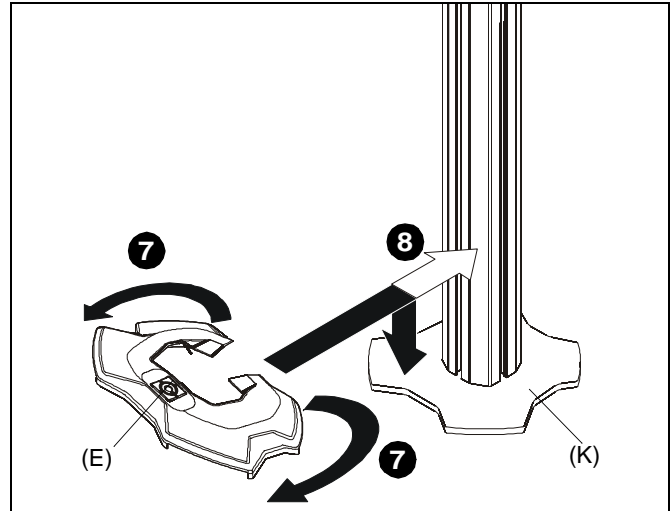

Figure 3
7. Carefully manipulate base cover (E) to create an opening large enough to wrap cover around array column. (See Figure 3)
8. Wrap base cover (E) around column and slide it down until base cover fits securely onto grommet plate (K). (See Figure 3)